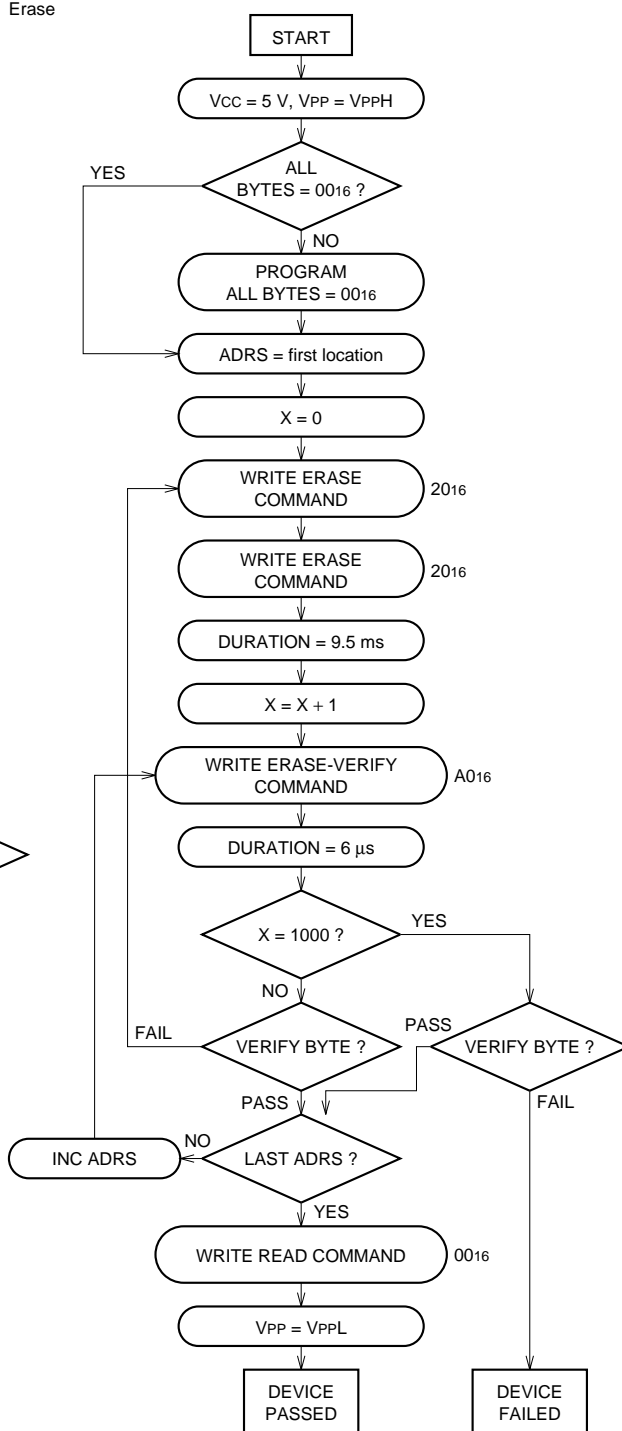

Fig. 12 Programming/Erasing algorithm flow chart
**Note:** A programming operation is not completed by executing the program command once. Always be sure to execute a program verify command after executing the program command. When the failure is found in this verification, the user must repeatedly execute the program command until the pass. Refer to Figure 12 for the programming flowchart.
**Note:** An erase operation is not completed by executing the erase command once. Always be sure to execute an erase verify command after executing the erase command. When the failure is found in this verification, the user must repeatedly execute the erase command until the pass. Refer to Figure 12 for the erase flowchart.
**Note :** A programming operation is not completed by executing the program command once. Always be sure to execute a program verify command after executing the program command. In the case of failure in the verification, the user must repeatedly execute the program command until the pass in the verification. Refer to Figure 12 for the programming flowchart.